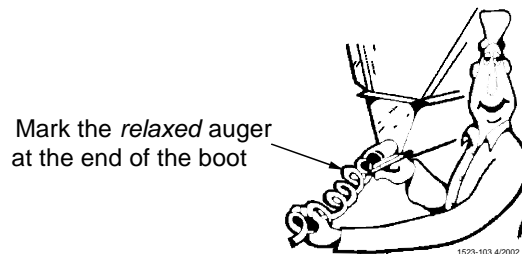

Figure 40. Wiring the Motor
13. Pull the auger at the boot end until it begins stretching. Then let it relax. In the relaxed position, mark the auger at the end of the boot. **See Figure 40.**